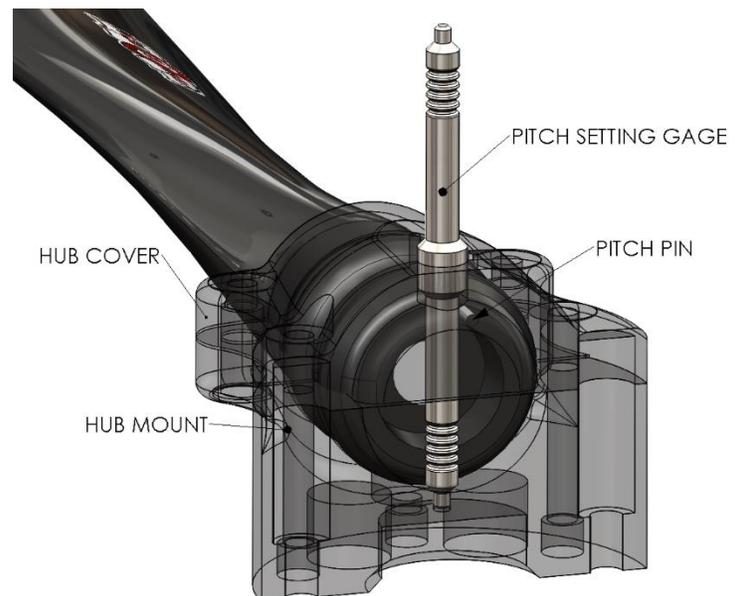

FIGURE 5. PITCH SETTING GAGE DETAIL
8. Insert the pitch setting gage through the clearance hole in the hub cover half and into the receiving hole in the hub mount half. See **Figure 5**. Be sure to use the nominal setting of 4 to start. The pitch setting # indicates relative pitch; pitch 5 is higher pitch than pitch setting 4, etc...
4. Insert the desired pitch setting gauge thru the clearance hole in the hub cover half and into receiving hole in the hub mount half. See **Figure 5.**